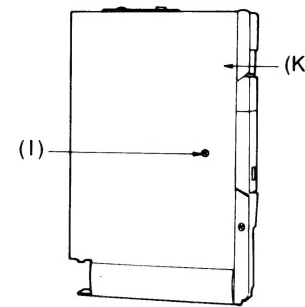

Fig. 8
3. Remove the bottom cabinet (K)×1. (Fig. 8)